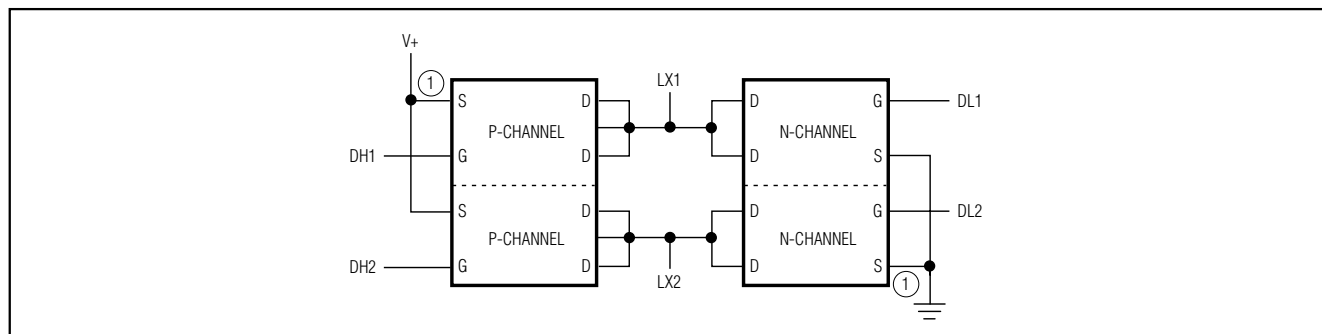

Figure 8. Dual N- and P-Channel MOSFET Design
- A dual N-channel and a dual P-channel MOSFET (Figure 8)